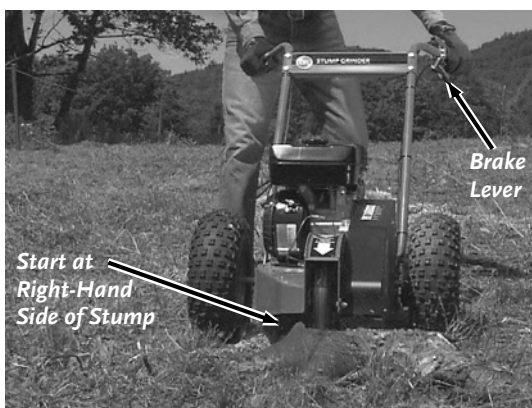

Figure 13
3. Move the Stump Grinder into position with the Cutter Head at the right side of the stump on the edge closest to you (not touching) near the top edge (Figure 13).